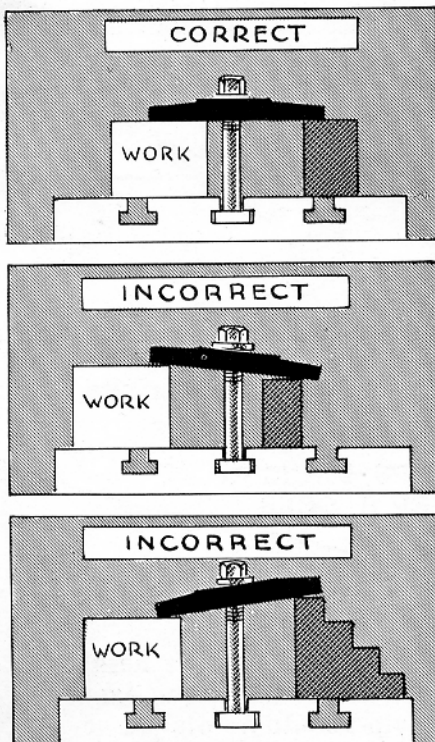

FIG. 166
4. Place the clamp over the bolt. Support one end of the clamp on the work and the other on the block. Check to see that the clamp is level and that the bolt is placed near the clamped surface. See Fig. 166 for the correct method of clamping.
**NOTE:** Because of the location of the table slots and the size and shape of the work, it is not always possible to place the bolt in a position of maximum gripping power. The arrangement emphasized in Figure 166 should be duplicated whenever practicable.